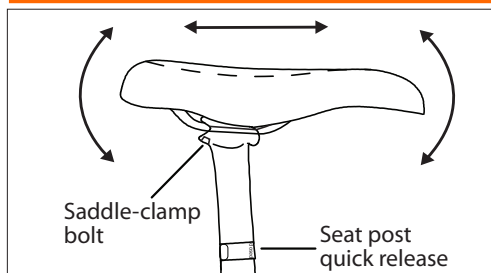

Fig. 53: Saddle bolts and adjustments.
1. Decrease the tightness of the saddle-clamp bolt (Fig. 53) until the saddle can be moved.